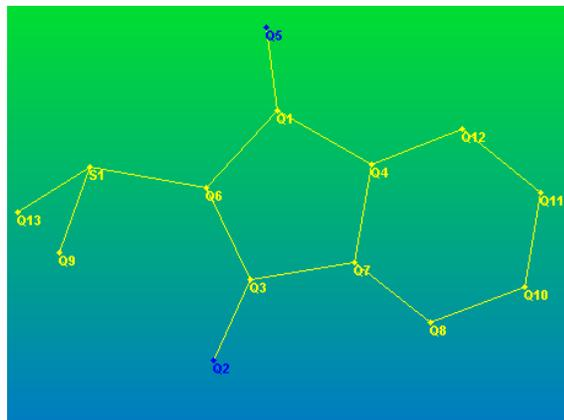

Figure 9.14 – New background color
2. If it is difficult to see the color and labels, change the color scheme with **Preferences > Background Color**. Choose colors and click **Apply**. Click **Cancel** to exit the background color mode. Note that the selected peaks are blue in Figure 9.14.